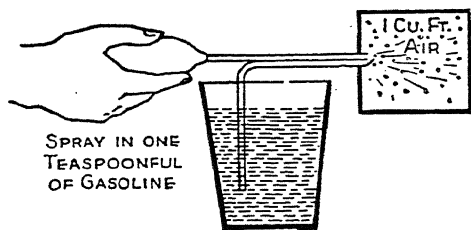

Fig. 4. Spraying a teaspoonful of gasoline into one cubic foot of air makes a combustible mixture.
*Vaporization by Spraying.* A vapor is a gasified liquid—in this instance the gasoline. If an atomizer were used, as shown in Fig. 4, it would be possible to spray one-half teaspoonful of gasoline into the cubic foot of air very quickly and have it fairly well mixed with the air, since it enters the air in the form of a mist. Everyone knows that some of the particles of the liquid coming from an atomizer are larger than others. These may fall to the bottom of the vessel containing the air. Naturally this vaporization is less perfect than when the particles are broken up so small and fine that they are not visible to the eye.
The use of the atomizer, as shown in Fig. 4, very simply represents one of the most important elements of design in carburetion. When the bulb is pressed, the air is forced through one tube out past a small opening in the other tube, which runs down into the gasoline container. The force of the air circulation past the small opening in the gasoline tube causes a suction which draws portions of the gasoline up through the tube. As it draws this gasoline out, the air from the bulb strikes the fuel and breaks it up into small particles or, in other words, it is atomized. Atom is a term applied to very small parts of any element and atomization means breaking into small particles. The application of this principle of atomization by spraying will be explained at a later point in this work.